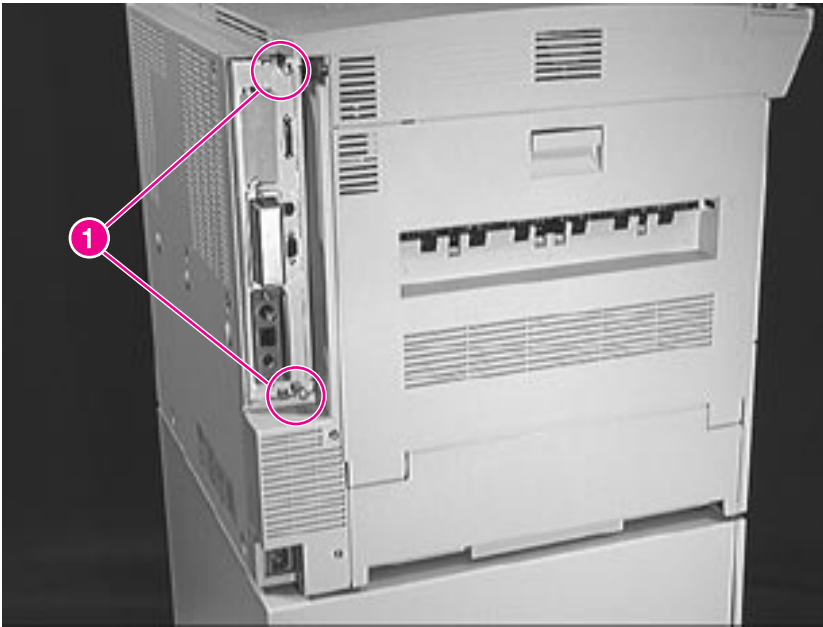

Figure 6-35 **Formatter Assembly**
- 2 Loosen the two captive screws (figure 6-35, callout 1), and slide the Formatter PCA out of the chassis.
- 1 Remove the Formatter Assembly (see figure 6-35 on page 201).
- Formatter Assembly (see figure 6-35 on page 201)